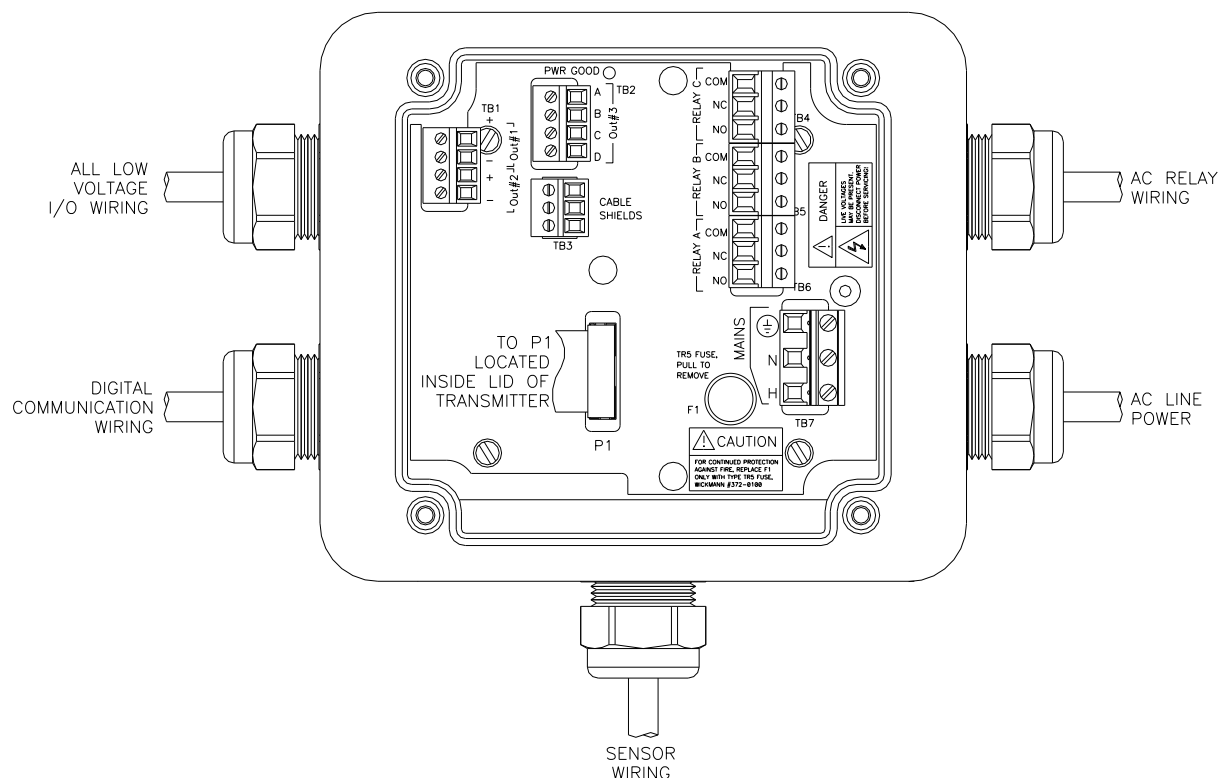

Figure 9 - Line Power Connection
1. Use wiring practices that conform to all national, state and local electrical codes. For proper safety as well as stable measuring performance, it is important that the earth ground connection be made to a solid ground point from terminal 12 (Figure 9).